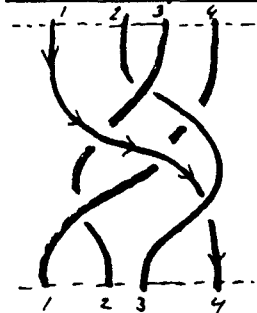

figure 1.
Simple analysis of a 4-strand spiral plat reveals that it is a repetition in series of the pattern shown in figure 1. I call such a segment a Length Block (LB). In Harry's case 5 of such LB are concatenated and their ends joined up to form a grommet. To enable us to perform some calculations on the weaves I introduce a scheme in which is indicated where a strand enters and where that strand leaves the weave. I call such schemes Permutation Matrices (PM). In figure 2 is given the PM for the LB of Harry's turban. From this PM it is immediately obvious that there exist 2 cycles in the LB, namely (1,4) and (2,3). This implies that pasting any odd number of LB, one after the other, will yield a weave requiring 2 strands to complete. On the other hand you will need 4 strands to finish a weave resulting of the concatenation of any even number of LB.